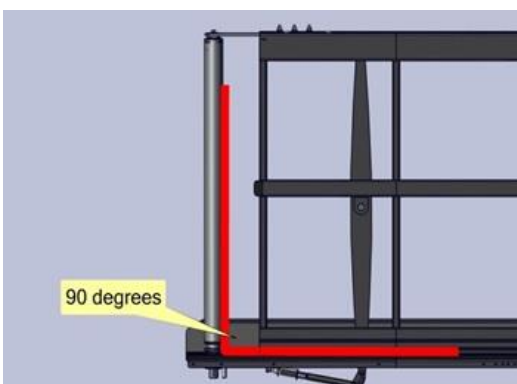
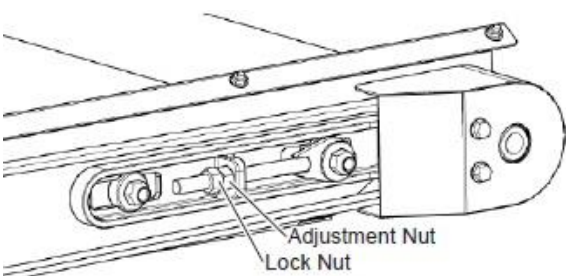

Figure 99
Figure 100
1. After the rollers are installed the rollers use a square to make certain the roller is perpendicular to the frame. Figure 99 If the roller is not square, loosen the lock nut and reposition the drive roller via the adjustment nut. Figure 100